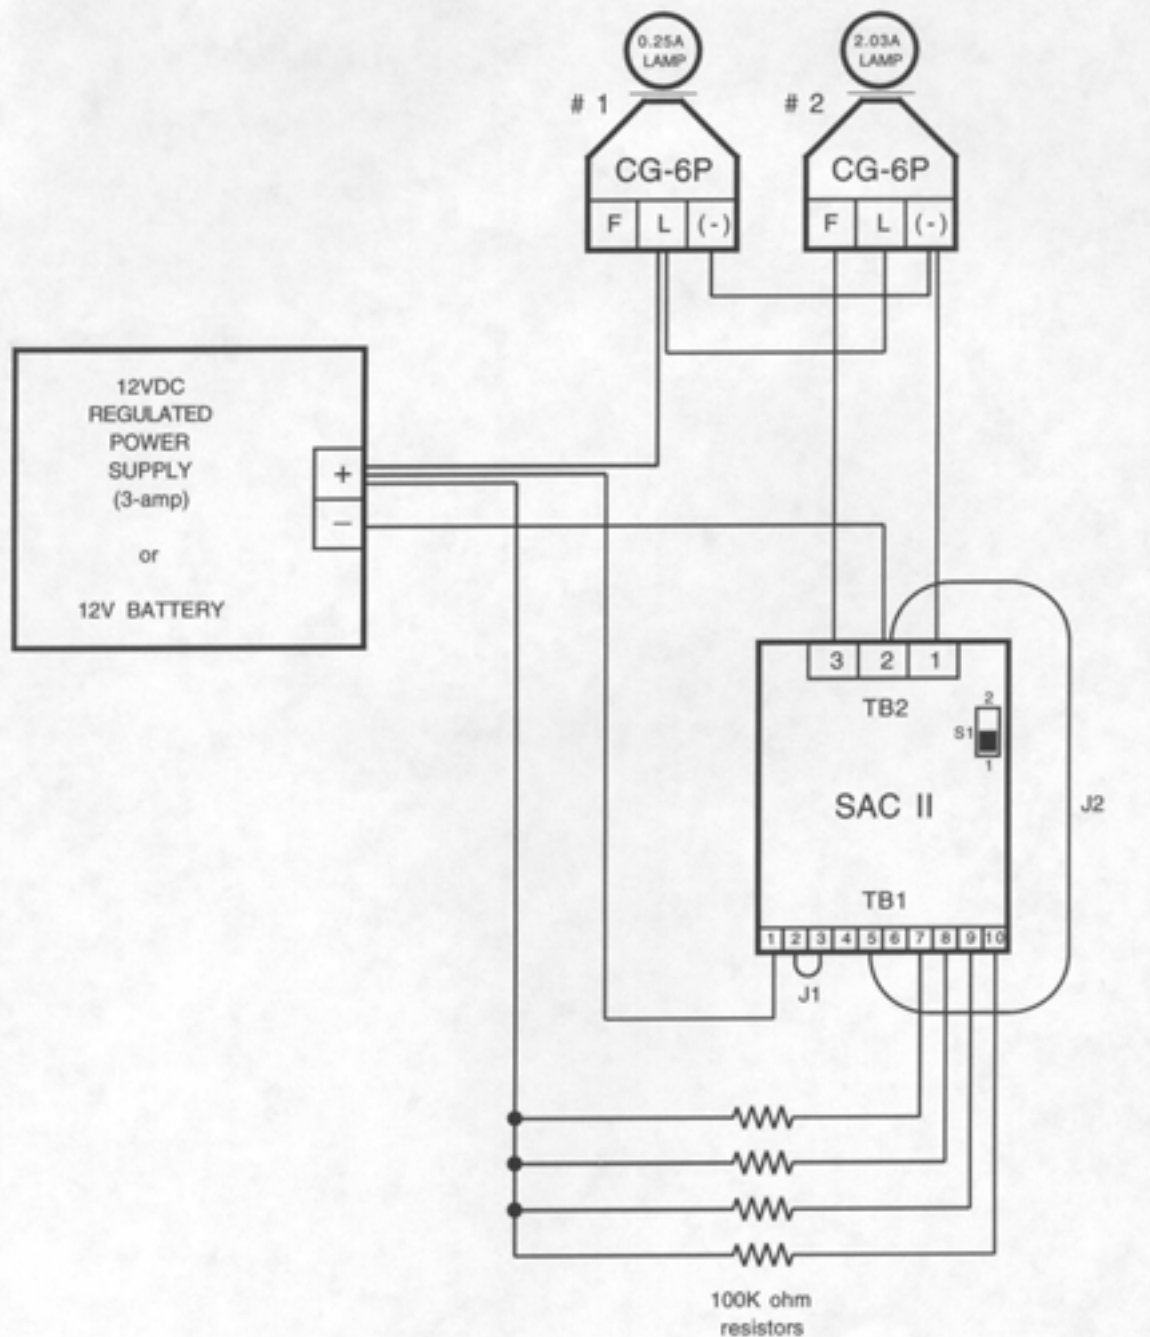

FIGURE 1.
- \_\_\_ d. Using hookup wire, interconnect the two CG-6P lampchangers and the controller as shown in Figure 1. Do not make power supply (or battery) interconnections yet. Power supply (or battery) interconnections will be made in steps (e) and (i) below.
- \_\_\_ e. Connect the four 100K-ohm resistors to the controller and power supply (or battery) as shown in Figure 1.
- \_\_\_ i. Apply power from either the power supply or the battery to the controller at TB1-1 (+) and TB2-2 (-). Also, apply positive (+) power to the lampchangers' "L" terminals, as shown in Figure 1.